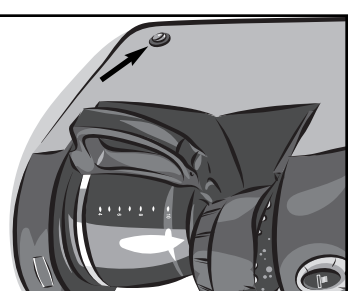

FIGURE 2
6. Press the Reservoir Power Switch located on the lower left side of the coffeemaker to "On" (see Figure 2). Wait at least 20 minutes for the water in the water reservoir to reach the ideal brewing temperature. To brew coffee, follow the "Brewing Coffee" instructions on page 8.